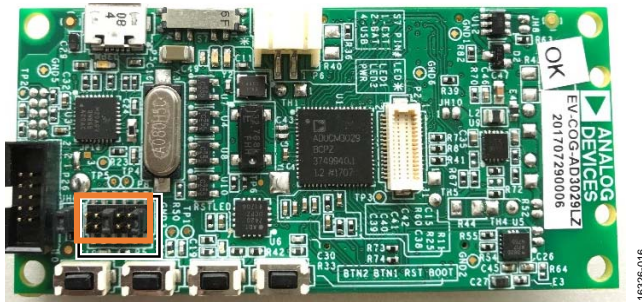

Figure 22. Jumper Connections for UART Printing
3. Ensure that the UART Jumpers (1, 2, 7, and 8) of the P8 connector are connected (see Figure 22).